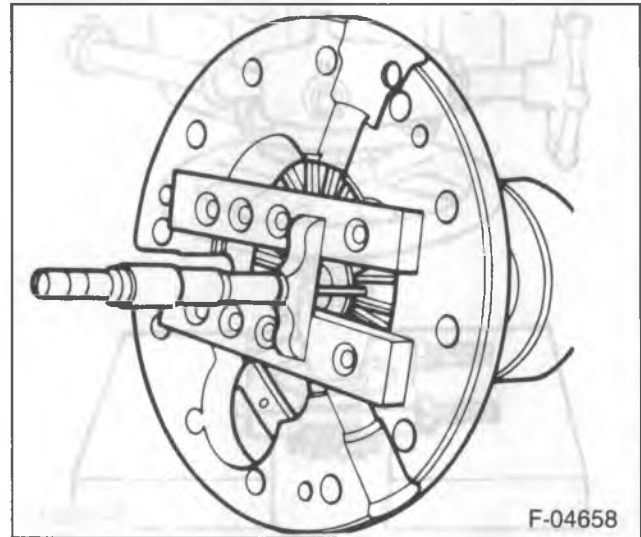

Figure 16—Side Gear Spread
- Measure the distance from the side gear face to the case half face (figure 16).